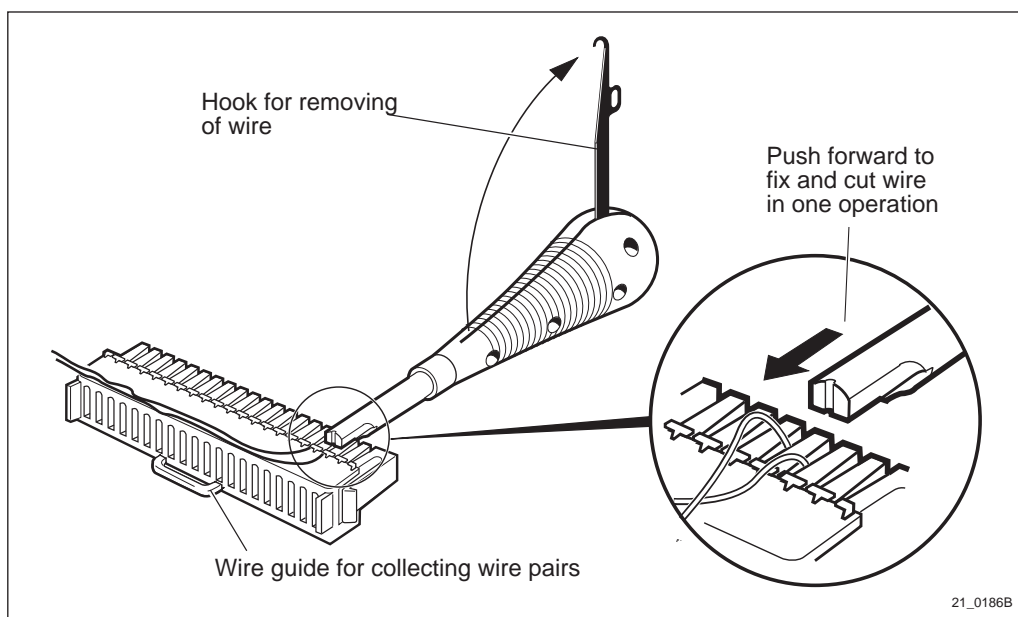

Figure 3 The use of Connection tool LSY 138 252
10. Position the Connection Tool LSY 138 252 against the slot and the wire, see figure 3, and press the tool firmly into the slot. The wire is now connected and cut at the same time. Remove the tool and the excess wire.